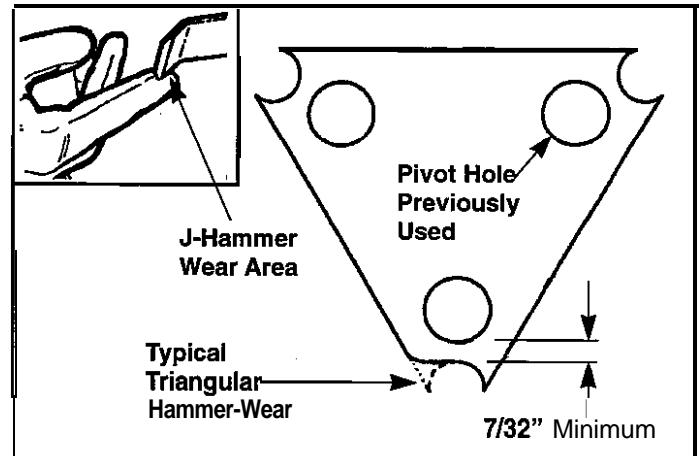

Figure 27. Inspect Hammers For Wear
11. Removal of the vacuum nozzle housing provides access to the shredding hammers. Inspect the J hammers and triangular hammers for wear, and replace if worn excessively (Figure 27).